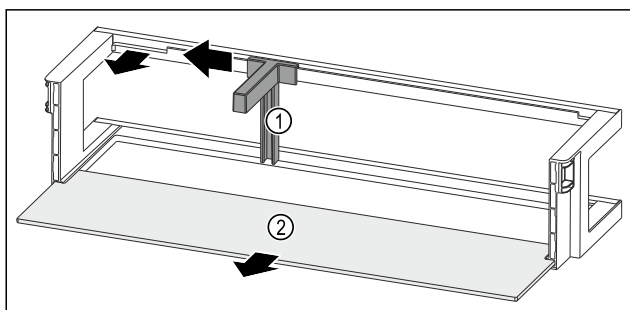

Fig. 261 Door rack with bottle holder and shelf
- Slide the bottle holder Fig. 261 (1) to the side as far as the recess.
- Remove the bottle holder Fig. 261 (1).
- Remove the shelf Fig. 261 (2).